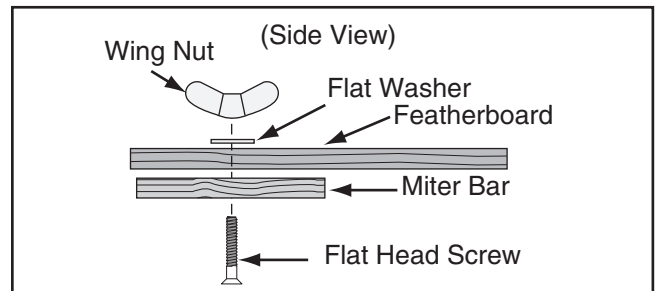

Figure 108. Assembling miter slot featherboard components.
8. Assemble the miter bar and featherboard with a $\frac{1}{4}$ "-20 x flat head screw, flat washer, and a wing nut or a star knob (see **Figure 108**). Congratulations! Your featherboard is complete.